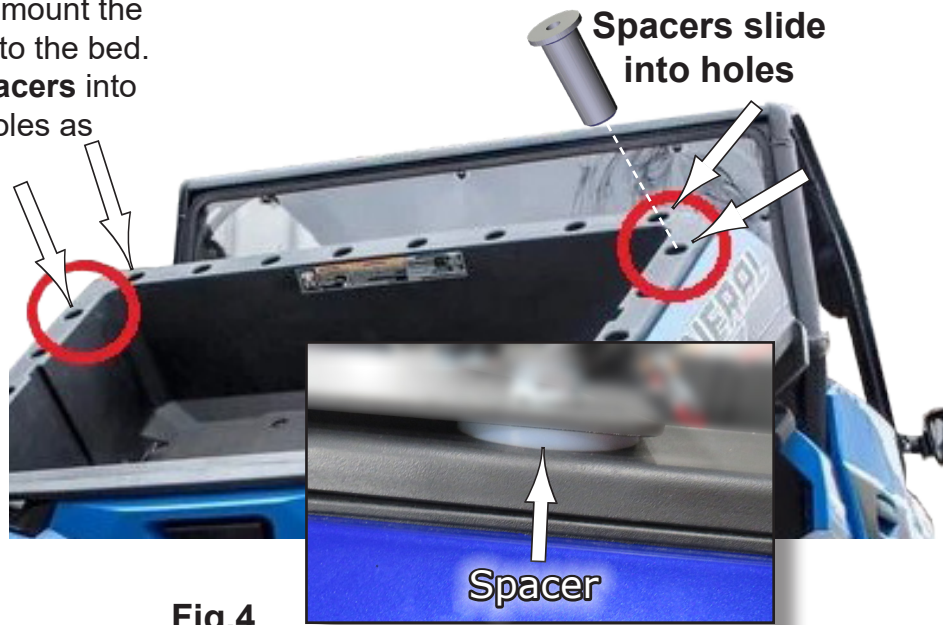

Fig.4
4. Next you will need to prepare to mount the rest of the mounting brackets onto the bed. The first thing is to insert the **Spacers** into two of the left and right corner holes as shown in **Fig.4**.